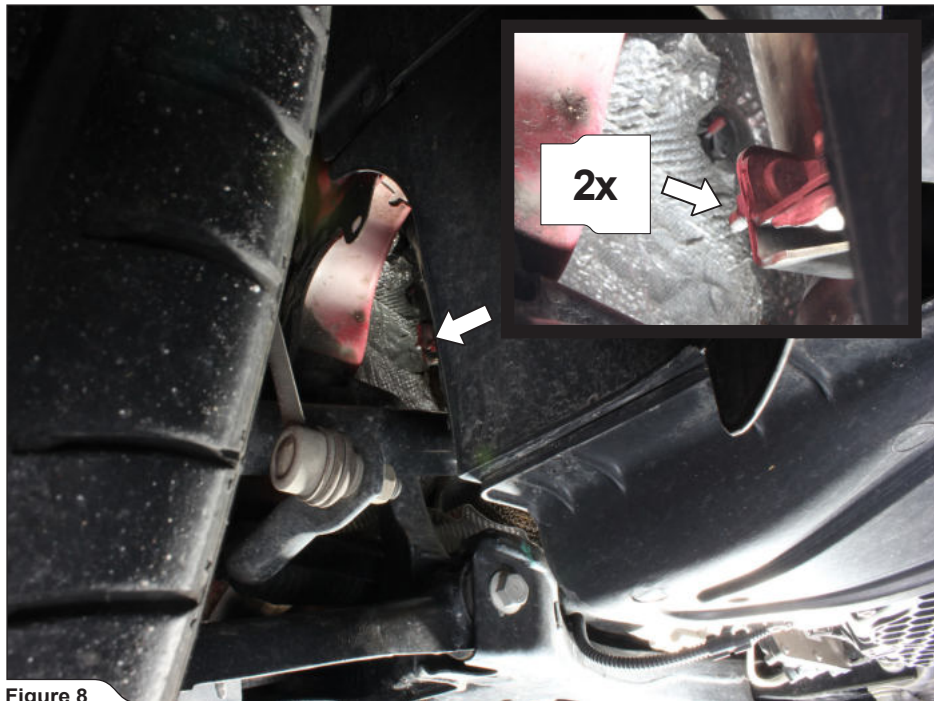

Figure 8
8. Unscrew the two down pipe's bracket nuts (Figure 8).